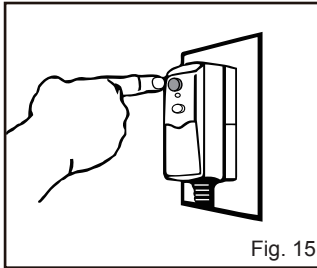

Fig. 15
- Unwind the power cord completely and plug the GFCI into a 120-volt outlet. Press the "TEST" button on the GFCI, power will be cut, and indicator will fade. Do not use it if this test fails. We recommend pressing the test button each time the pressure washer is used to ensure the protector works. Press the RESET button, the indicator light will come on when the power is on (Fig. 15).